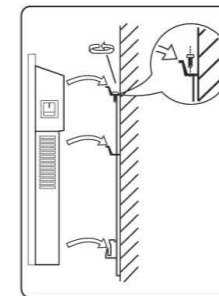

Рис. 5
7. Mount the convector on the bracket by connecting 4 slots on the back part of the convector with 4 lugs on the bracket (Fig. 5) and pull it downwards.